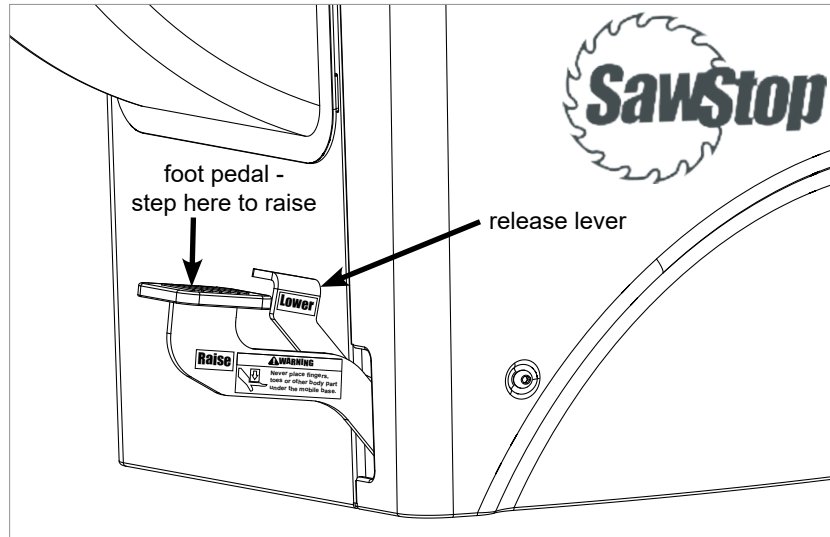

Fig. 41
1. Using your mobile base is simple and intuitive. Simply step down on the large foot pedal to raise the saw off the floor and onto the wheels (see Fig. 41). Continue pressing down on the foot pedal until you hear the mobile base lock in the raised position. Make sure that your foot does not contact the smaller release lever while you are pressing down on the foot pedal, otherwise the mobile base will not stay in the raised position.